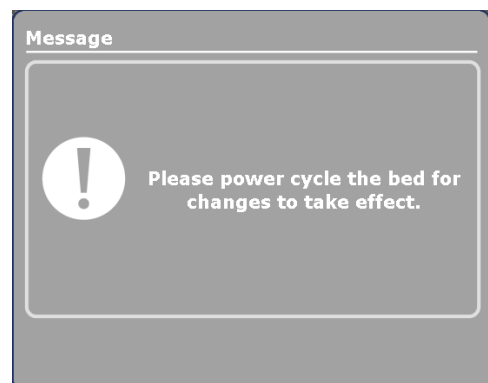

Figure 34: Cycle Power Screen
5. After pressing the **OK** button, the options will be saved. A power cycle screen (Figure 34) will be displayed stating to cycle power on the bed.
6. Cycle the power to the bed by first turning the battery disconnect switch to **OFF** (O) then unplug the power cord from the wall outlet. Plug the power cord back into the wall outlet and then turn the battery disconnect switch back **ON** (I).
4. After pressing the **OK** button a power cycle screen (Figure 34) will be displayed stating to cycle power on the bed.
5. To cycle power on the bed, turn the battery disconnect switch to **OFF** (O) then unplug the power cord from the wall outlet. Plug the power cord back into the wall outlet then turn the battery disconnect switch back **ON** (I).